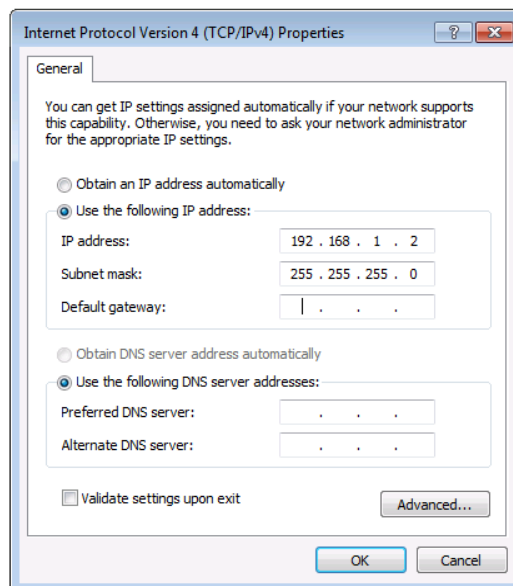

Figure 10: Internet Protocol Properties Window
6. Select **Use the following IP Address** for static IP addressing and fill in the details as shown in Figure 10.